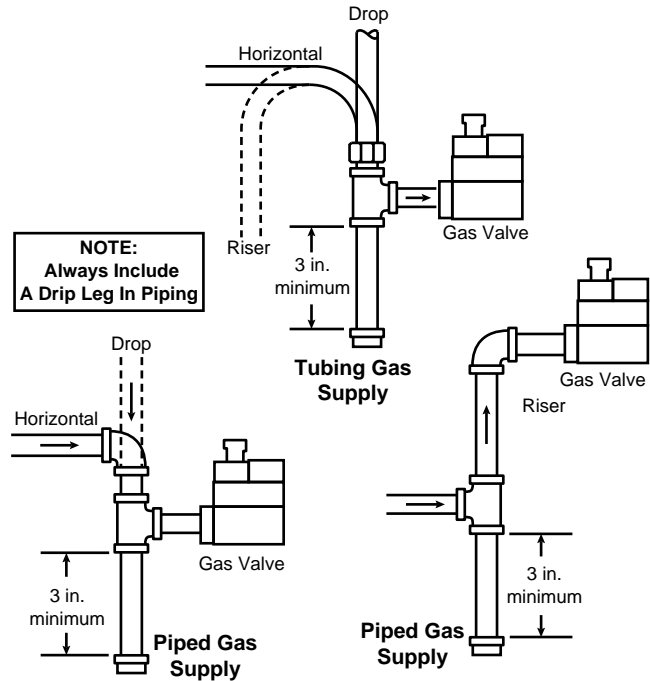

Figure 2. Typical gas valve piping
5. Apply pipe joint compound (pipe dope) or teflon tape **that is approved for all gases, only to the male threads of the pipe joints. DO NOT** apply compound or teflon tape to the first two threads (see fig. 2 for typical piping connections).